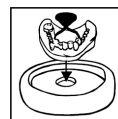

Figure 1
- Place the model on the open hole of the muffle bottom of the SHERAMUFFELFORMER MG. (Figure 1)